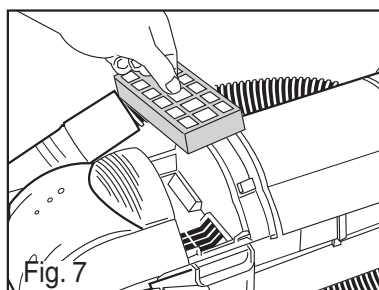

Fig. 7
1) Lower handle to floor and remove HEPA filter (Fig. 7).